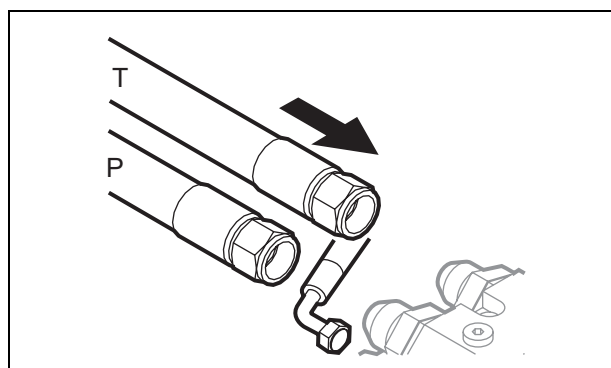

Fig. 26 Assemble the hydraulic hoses to the saw motor manifold
8. Assemble the hydraulic hoses to the saw motor manifold. *See Fig. 26.*